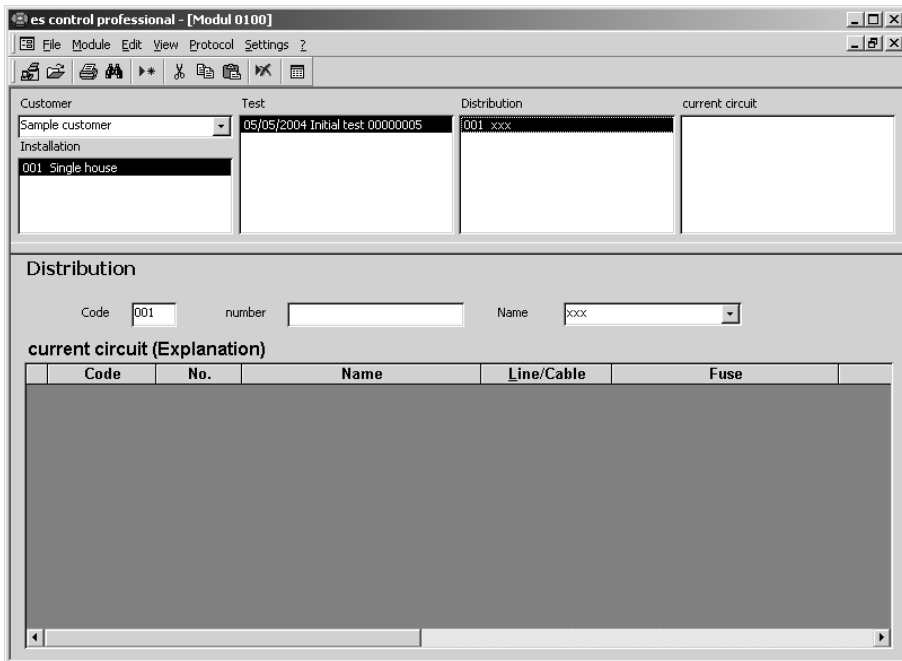

Figure 5.17 Add data record for distribution
- ▶ Create a new data record using the “Data record | Add” menu command or use the context menu, which may be accessed by clicking the right mouse key. A new distribution “xxxxx” is created for the new installation within “Installation 1” for “Customer A”. The new distribution data record is displayed as shown in Figure 5.17.